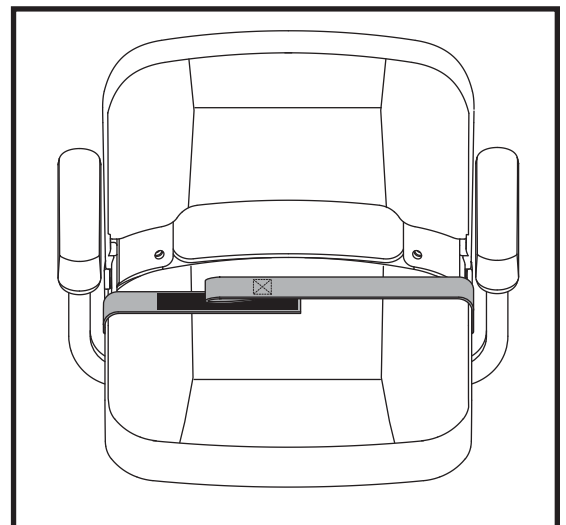

Figure 29. Positioning Belt - Reusable Hook and Loop Fastener Style
1. Align the two sides of the belt placing the looped-end side directly above the coarser side (“hook”) of the opposite belt. Press firmly together to fasten. **See figure 29.**